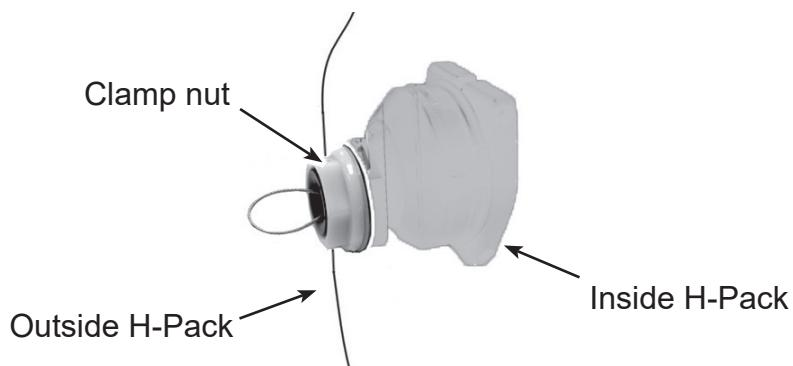

FIGURE 212
4.2.11 Remove the clamp nut from the operating head. Refer to **Figure 212**.